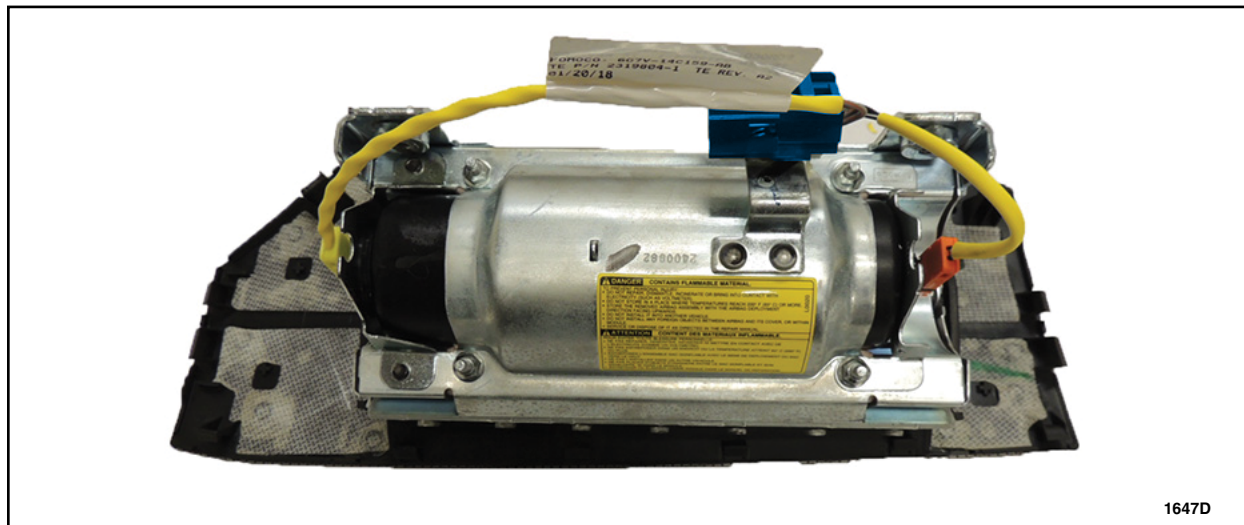

FIGURE 11
13. Install the *new* wiring harness onto the passenger airbag module and connect to both sides of the inflator. See Figure 11.